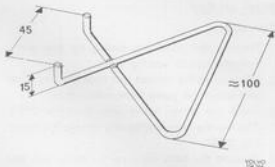

Fig. 2-185. Puller for plug contact:
5. Make a puller like the one shown in Fig. 2-185. Hook in this puller, see Fig. 2-186, and pull out the plug contact carefully.